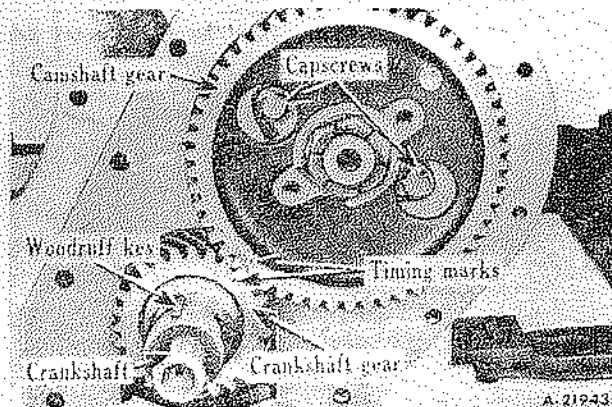

Fig. 22 - Timing gear timing marks and camshaft thrust plate details
3. Remove two self-locking cap screws from camshaft retainer thrust flange plate, working through two holes in camshaft gear (Fig. 22). Pull camshaft and gear assembly from cylinder block. Remove two cap screws holding the gear case cover to block;